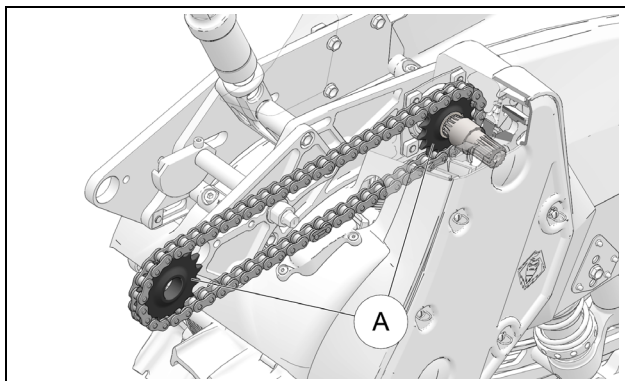

Figure 50
Inspect the chain drive sprockets (A) for wear. If the chain is set to the required tension (3-6 mm [1/8-1/4 in.] deflection) but misses or skips over some of the driving teeth, the sprockets must be replaced. See Figure 50.